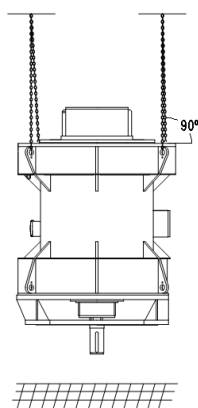

Figure3.1: Motor handling
- Vertical motors must be handled as shown in Figure3.1;